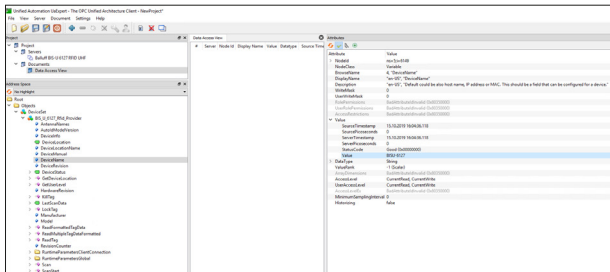

Fig. 9-18: Display of a variable in the *Attributes* window
- ▶ Click on the desired variable in the *ADDRESS SPACE* window (in Fig. 9-18 the *DEVICENAME* variable was clicked on by way of example).